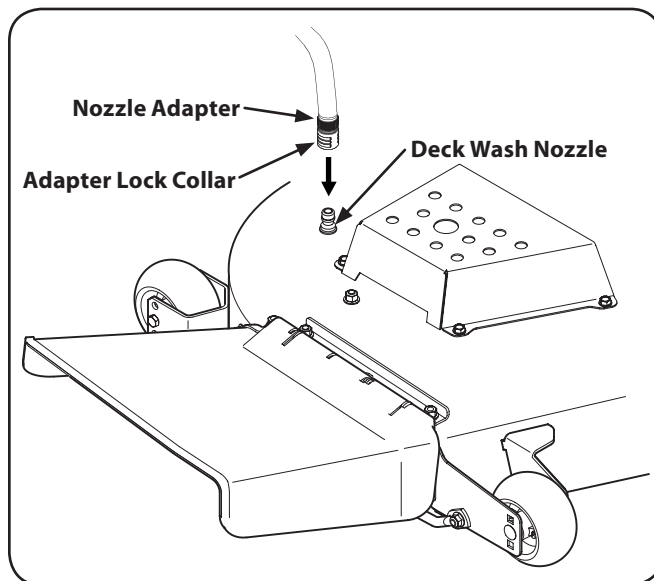

Figure 6-3
4. Attach the hose coupler to the water port on your decks surface. See Fig. 6-3.